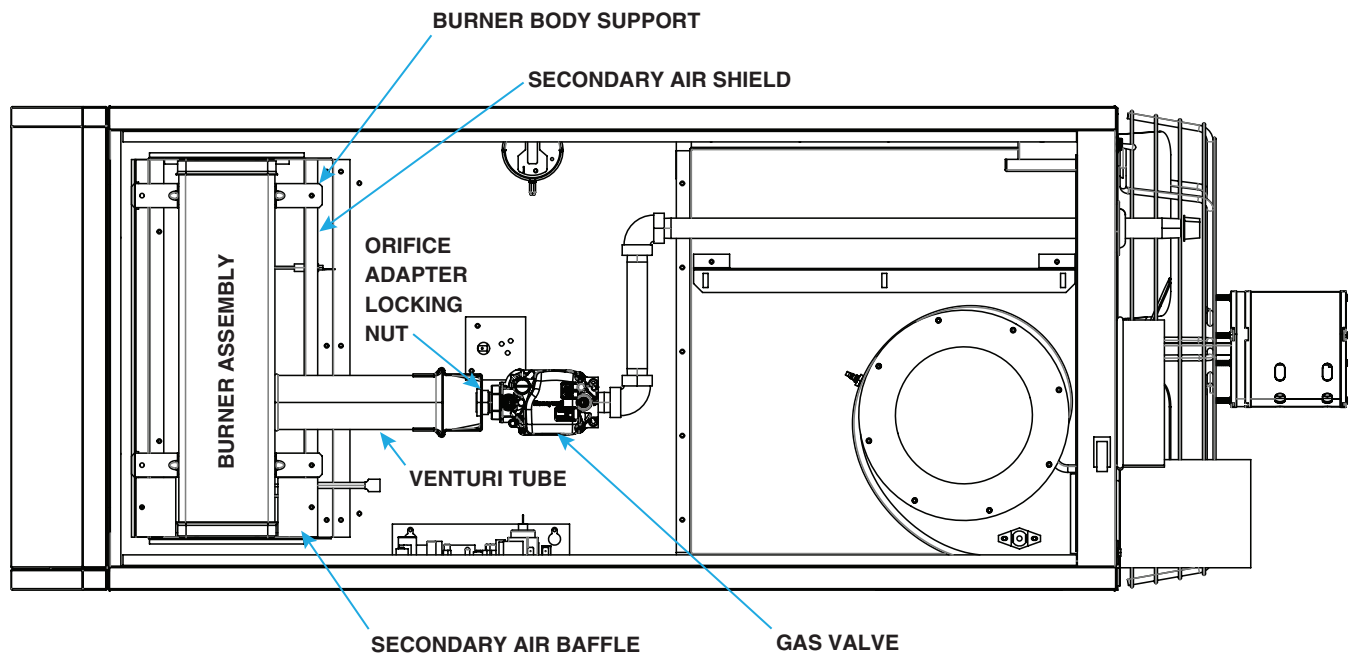

Figure 31. Burner Compartment (Unit Sizes 130–310)
Visually inspect the burner compartment (see Figure 31). If there is an accumulation of dirt, dust, and/or lint, clean the compartment and remove and clean the burner as follows:
2. Remove burner assembly (see Figure 31):
- (1) Remove four screws that secure end cap to burner housing.
- (2) Lightly tap end cap to remove it.
5. Re-install burner assembly (see **Figure 31**):